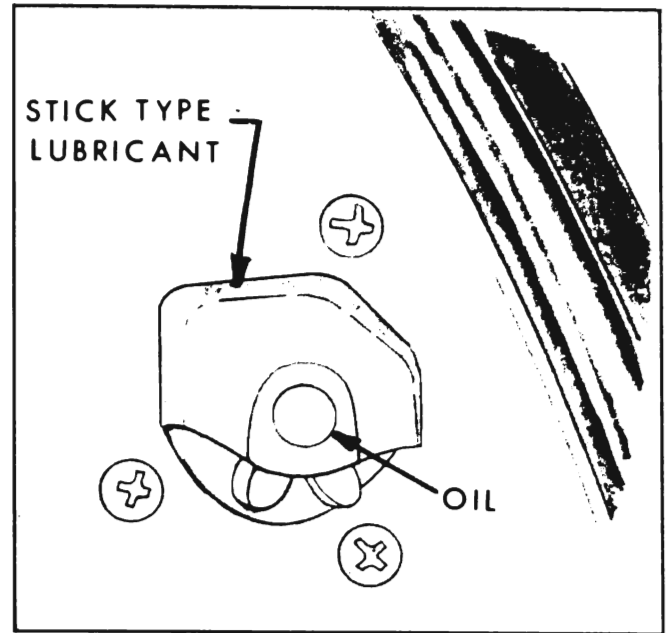

Figure 1-15—Lubrication of Door Lock Bolt and Housing
13. Door Lock Bolt. Wipe off dirt and apply a thin coat of stick type lubricant on top surface of lock bolt housing indicated in Figure 1-15. Oil rotary bolt shaft with engine oil. Wipe off excess. See Figure 1-15.